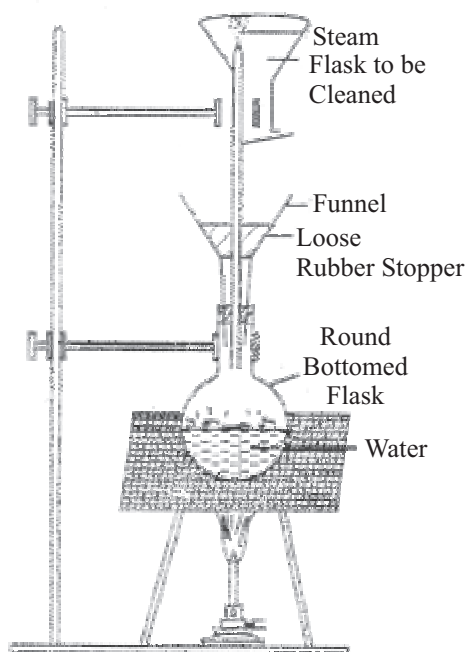

Fig. 5.1: Cleaning of the conical flask by steaming out process.
- Cleaning of the conical flask.* The apparatus is set up as shown in the Fig. 5.1. Distilled water is taken in a round bottomed flask fitted with a funnel in its mouth. A glass tubing passes through the funnel and is held